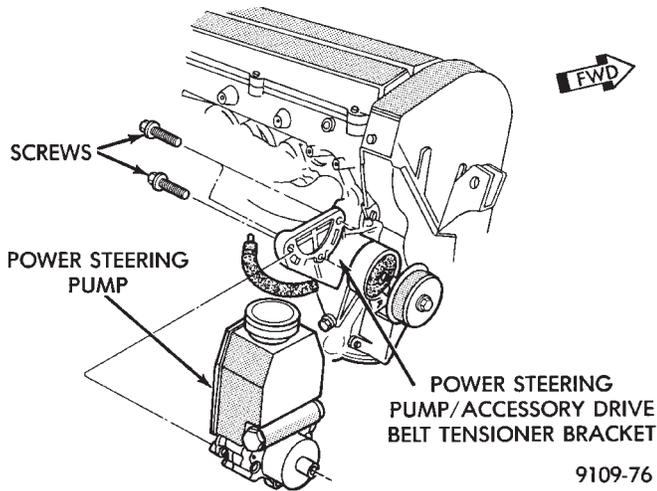

Fig. 11 Power Steering Pump Attaching Bolts
(3) Remove Timing Belt covers. Refer to procedure outlined in this section.
(4) Remove Power Steering Pump bolts set pump aside (Fig. 11).
(6) Install power steering pump on bracket tighten bolts to 28 N·m (250 in. lbs.) torque (Fig. 11).
(7) Install timing belt covers. Refer to procedure outlined in this section.